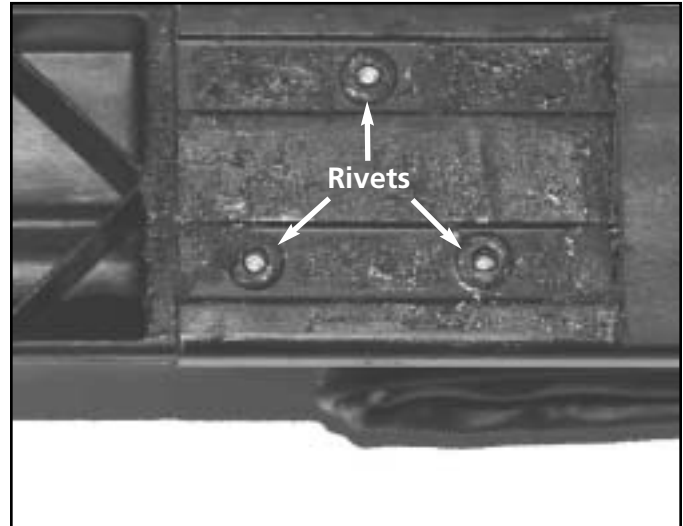

Figure S-95
7. From the under side of the tracks, drill out the three (3) rivets per side being careful not to drill into the tracks. See figure S-95.
12. Insert the three (3) rivets per side to fasten the end caps to the tracks. Refer back to figure S-95.